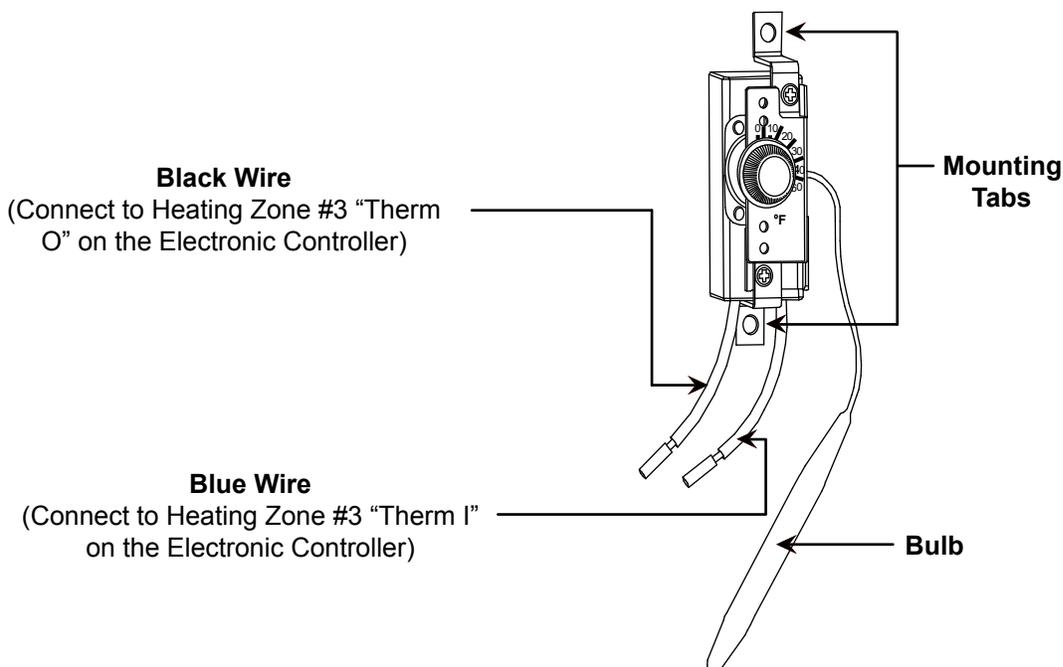

Figure 21
1. Only the “Bulb” of the Low-Temp Thermostat needs to be physically mounted in the area requiring heat; reference Figure 21.
3. The selected Thermostat body mounting location should allow for easy operator access; reference Figure 21.
3. Connect both wires to the appropriate leads of the Low-Temp Thermostat; reference Figure 21.
4. Permanently mount the Low-Temp Thermostat in place; reference Figure 21.